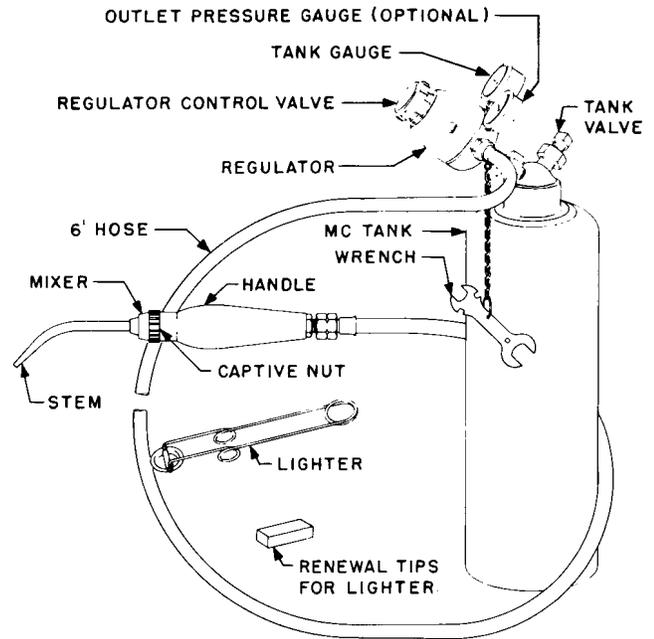

Fig. 6—E Acetylene Torch Connected to MC Tank
9.04 The E acetylene torch, illustrated in Fig. 6, should be adjusted as follows: